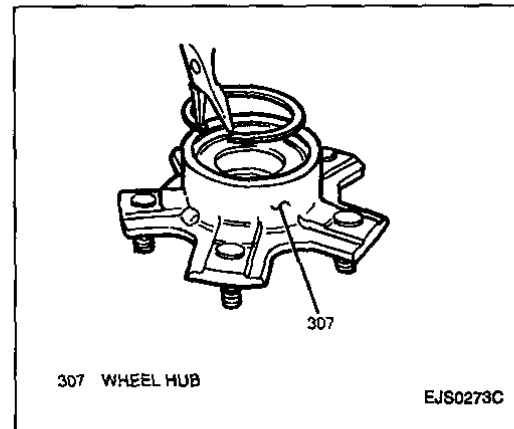

Figure 27—Removing Snap Ring
11. Snap ring from hub (Figure 27).